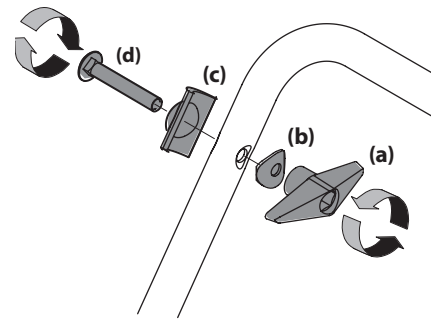

Figure 2-6
- Remove the wing knob (a), saddle washer (b), handle tab (c) and carriage screw (d) on each side of the lower handle. See Figure 2-6.